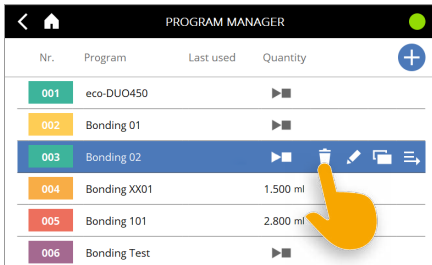

Fig. 74
- ▶ Press the delete icon (Fig. 74)